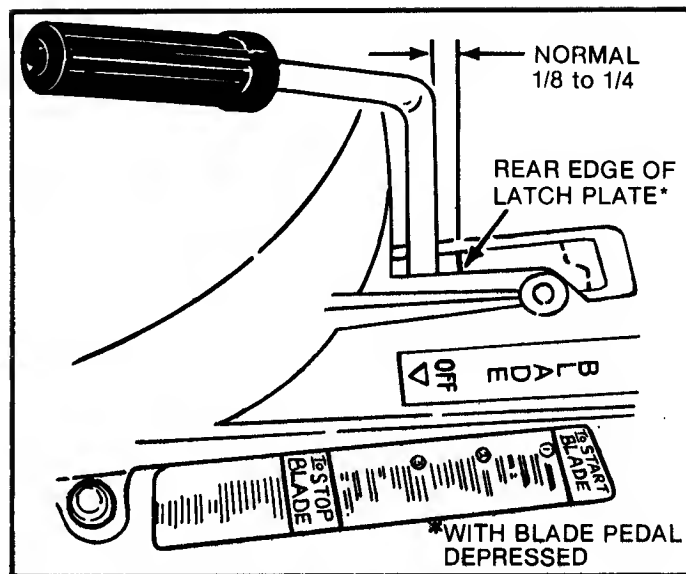
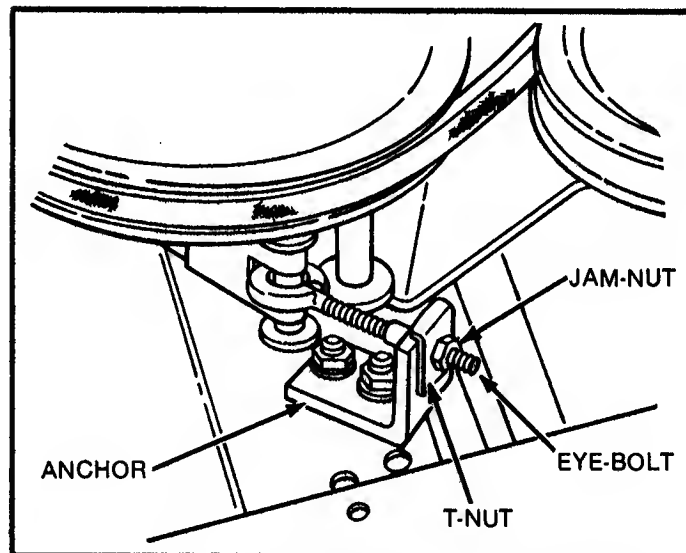

FIG. 8 — BLADE LEVER TRAVEL
FIG. 9 — BLADE BRAKE ADJUSTMENT
The blade brake compensates for wear. As the brake band wears, the blade control lever will gradually stop further rearward in the slot of the cover. Adjustment is required when the lever touches rear of slot (figure 8) or when the blade takes more than 3 seconds to stop. A 7/16" wrench is needed for this procedure. The adjusting point is shown in figure 9. The adjustment is made with the engine stopped as follows.
STEP 2: While holding the blade lever firmly in the rearward position, loosen the jam-nut on the end of the blade stop eye bolt (figure 9).